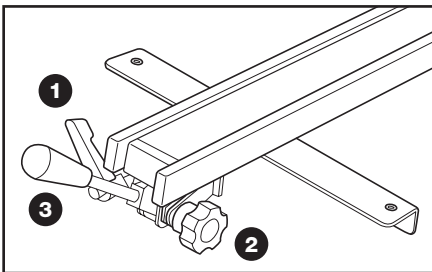

Figure 8
1. Position fence to approximate location for the cut being planned. Main fence lock **3** can be very lightly engaged to square the fence. Figure 8.